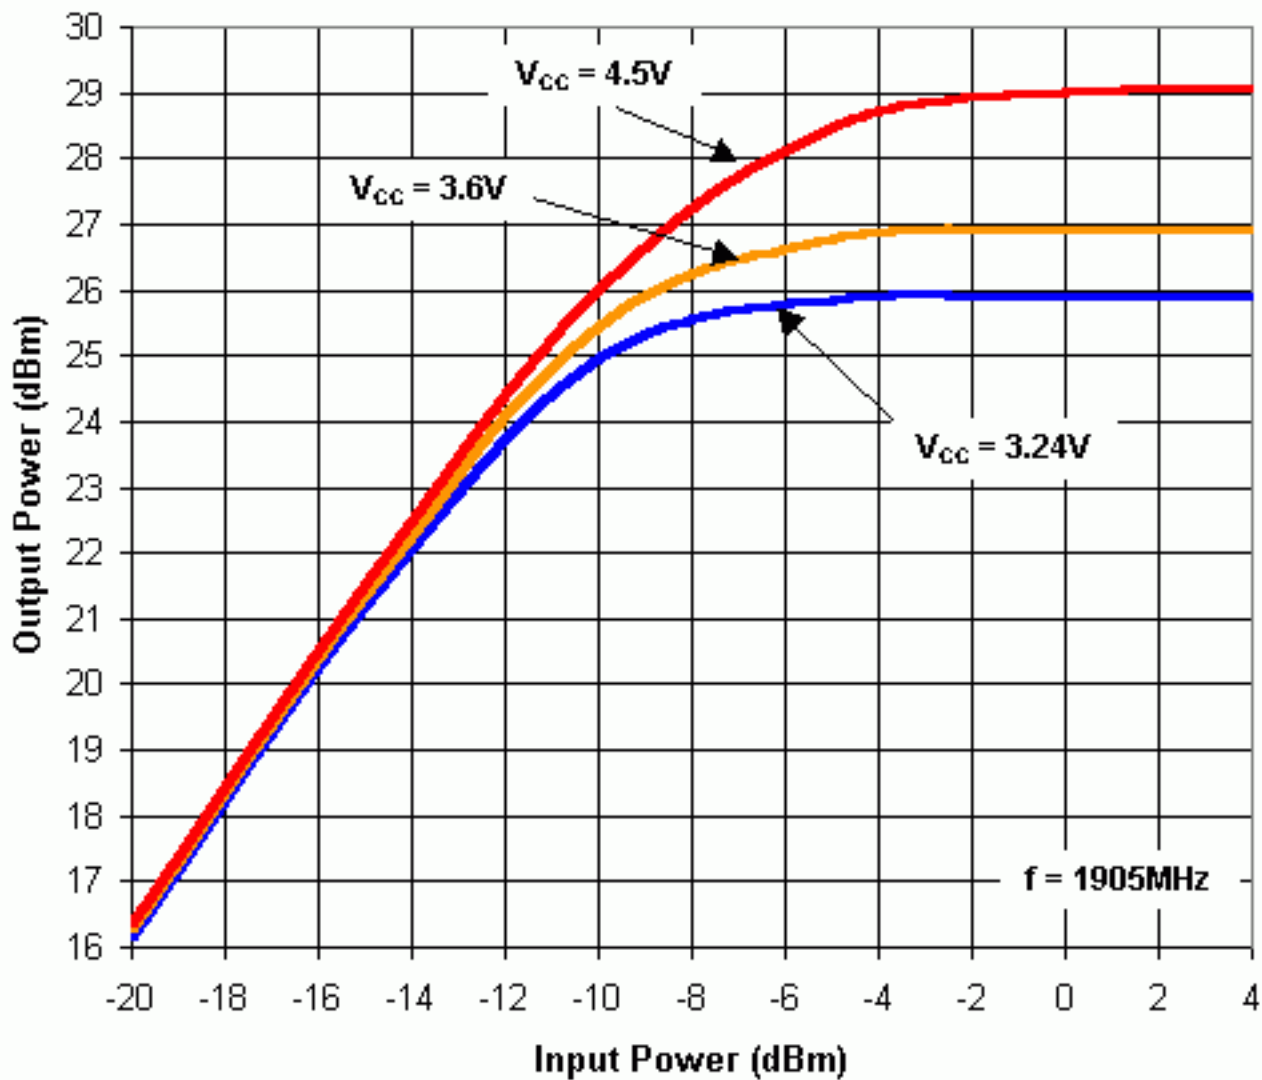

Figure 1. MAX2242 1.9GHz DECT output power versus input power.
The MAX2242 is an ultra-low-cost, silicon, bipolar power amplifier (PA) with integrated bias-circuitry, logic-level shutdown and power detector. The PA is packaged in the ultra-small UCSP package (1.5mm x 2.0mm). When optimized for DECT applications in the 1.9GHz frequency band, the PA delivers +27dBm output power from 3.6V at a PAE of 41%, with 27dB of power gain. Output power can be increased to +29dBm when operated from a 4.5V power supply. Refer to Table 1 for the performance of the PA over supply voltage and frequency variations. Refer to Table 2 for a summary of PA harmonic suppression versus supply voltage. Refer to **Figure 1** for a summary of PA Output Power versus Input Power and Supply Voltage Variations.